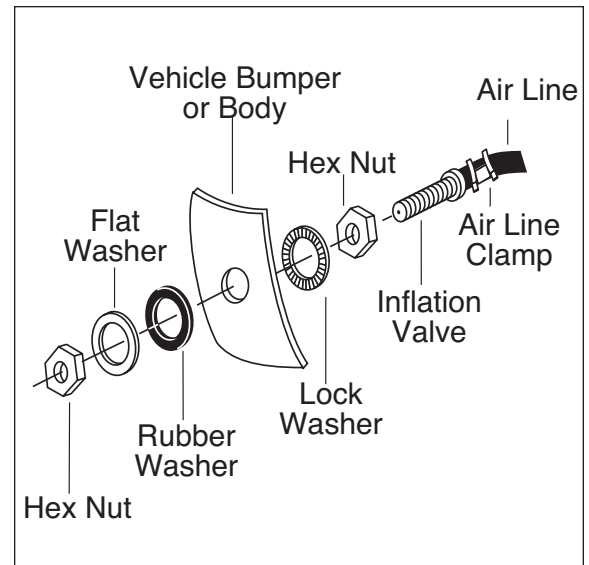

Figure 6
- l. Drill a $\frac{5}{16}$ " hole for inflation valve and mount as in illustration (Figure 6). Rubber washer is for outside weather seal.
- Drill $\frac{5}{16}$ " hole for inflating valves and mount as illustrated. Rubber washer is for outside weather seal (Figure 6).